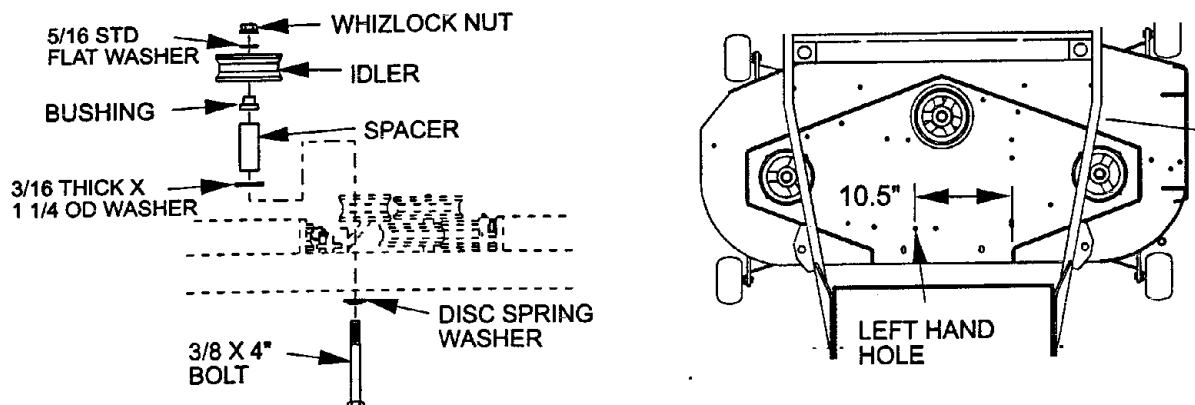

FIG 3
- 3.6.6 Install cutter deck stationary idler. Locate two holes along the back center section of the cutting deck. Install the stationary idler and related parts in the left hand hole location as shown in Figure 3. See belt routing decal on deck. Be sure the coned end of the disc spring is against the head of the bolt as illustrated (see Figure 3).